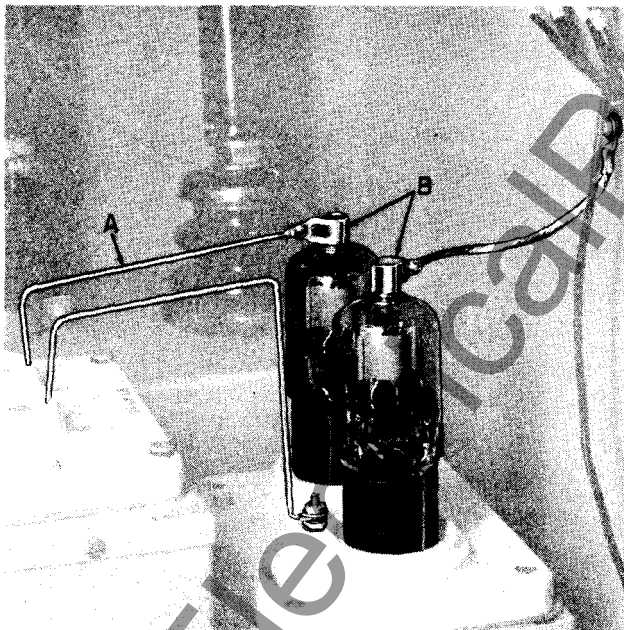

Fig. 1. RA-15 Power Pack Equipped with WL-481B Tubes.
1. Shorten and bend lead "A" to the shape shown in Fig. 1.